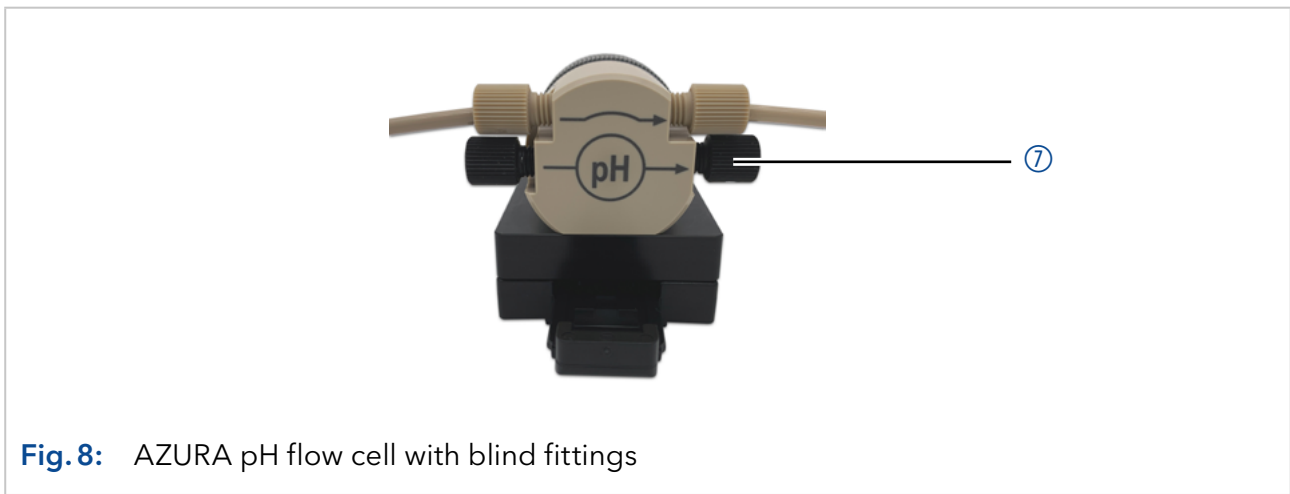

Fig. 8: AZURA pH flow cell with blind fittings
- connect the fluid capillaries to the integrated bypass (use blindfittings during the tubing switching to prevent leakages, see Fig.8) or